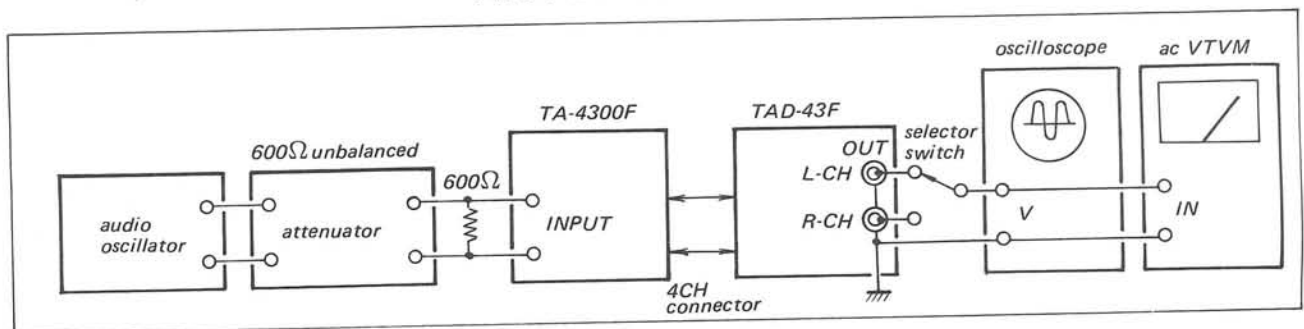

Fig. 3-2 Crosstalk measurement test setup
1. With the equipment connected as shown in Fig. 3-2, feed a signal to the left channel INPUT jack as specified in Table 3-2 to obtain a 0 dB output.